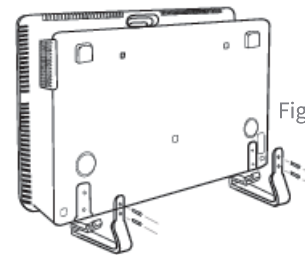

Figure 6
- d. Tightened the 4 screws provided at the back (as shown in figure 6) and installation is completed.